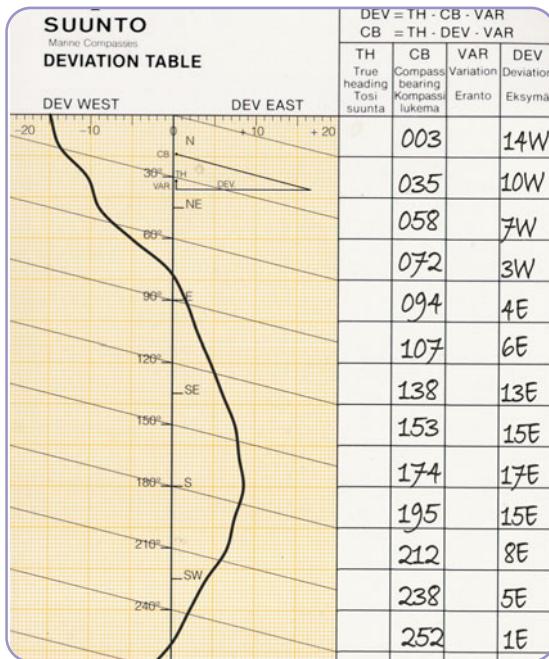

Fig 17 An unadjusted compass, or one in a magnetically 'difficult' position, may have very large amounts of deviation, and calls for particular care (see text).
Suppose you want to steer a course of 070° (T). From the deviation card in Figure 17, the deviation on a heading of 075° is 1°W, and on 060° it is 5°W – so on 070° one might expect the deviation to be about 2°W. Adding this to the variation of 20°W produces a 'total error' of 22°W – giving a compass course of 070° + 22° = 092° (C).
When the deviation is also large, a further refinement is needed in order to achieve an accurate result. Suppose, for instance, the course required is 120° (T). Allowing for variation converts this to 120° + 20° = 140° (M). From the deviation card in Figure 17, the deviation for 140° is 13°E, suggesting a compass course of 140° – 13 = 127°(C).